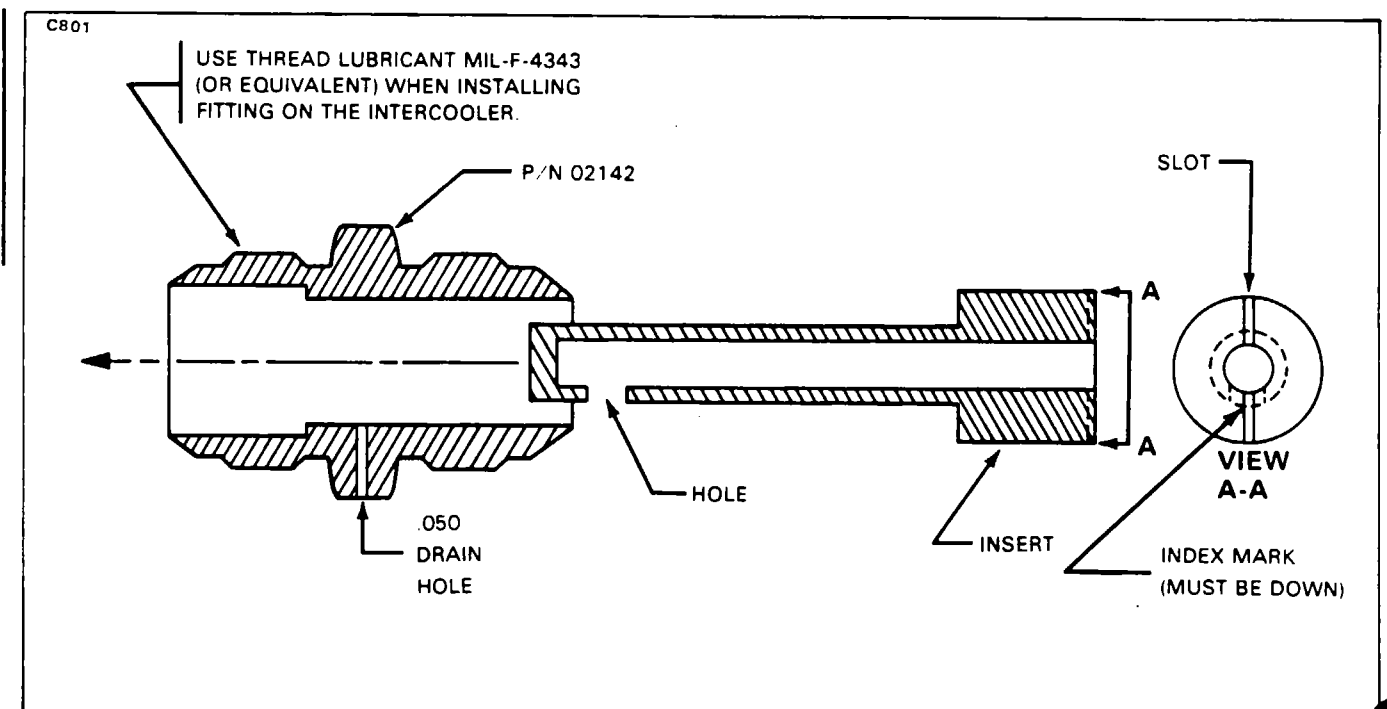

Figure 36-2. Special Intercooler Drain Fitting
1. Prior to installing the intercooler ascertain that the special inlet fitting is positioned so that the drain hole drilled in one flat is positioned to the bottom of the cooler when installed. Also ascertain that the insert part of this fitting is positioned with the hole down, as shown in Figure 36-2.